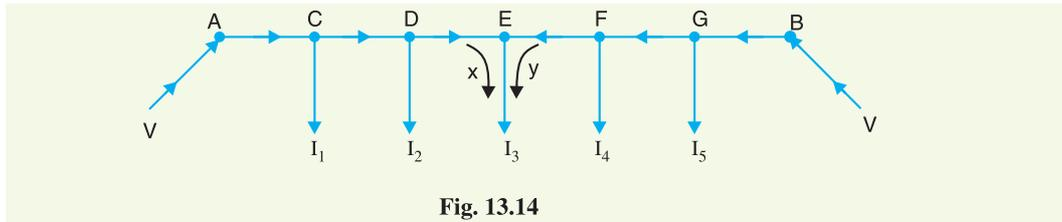

Fig. 13.14
- (i) **Two ends fed with equal voltages.** Consider a distributor  $AB$  fed at both ends with equal voltages  $V$  volts and having concentrated loads  $I_1, I_2, I_3, I_4$  and  $I_5$  at points  $C, D, E, F$  and  $G$  respectively as shown in Fig. 13.14. As we move away from one of the feeding points, say  $A$ , p.d. goes on decreasing till it reaches the minimum value at some load point, say  $E$ , and then again starts rising and becomes  $V$  volts as we reach the other feeding point  $B$ .